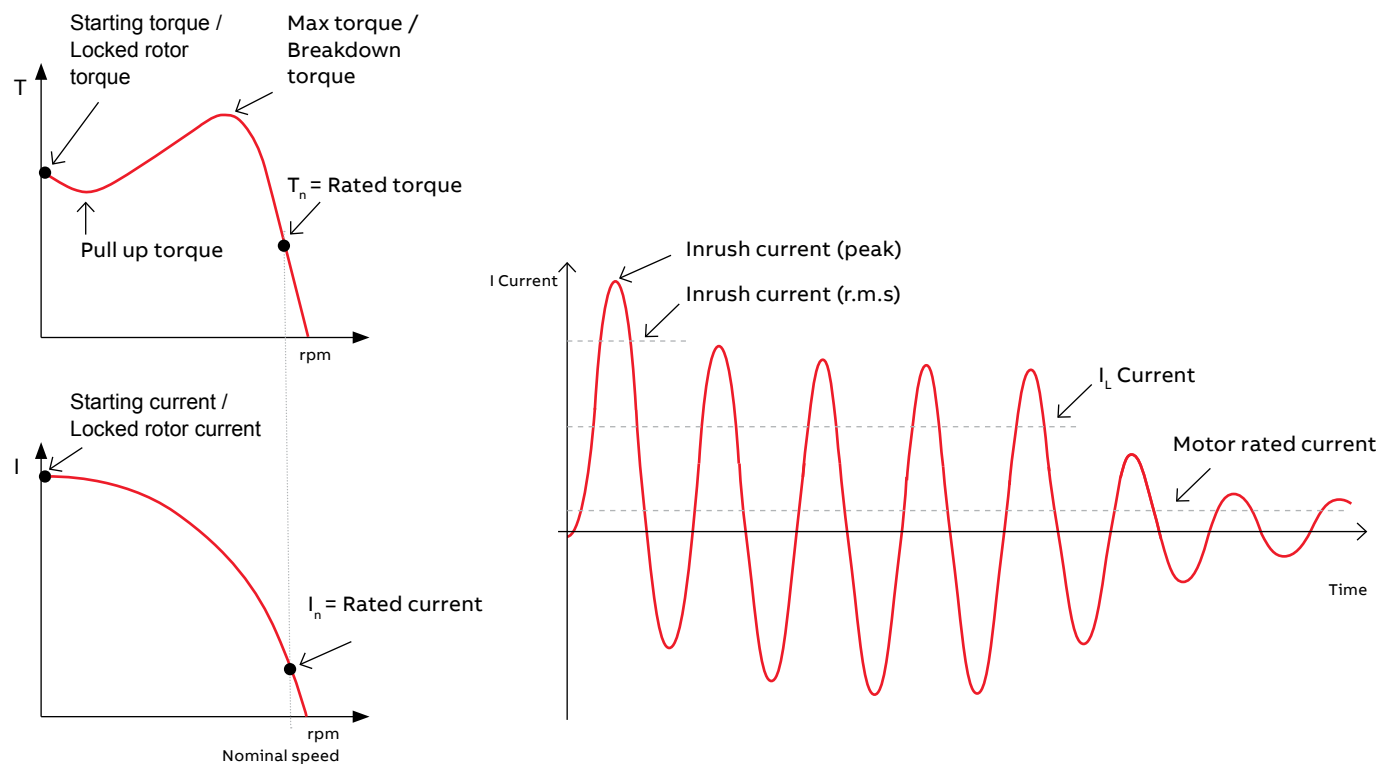

Figure 2: Diagrams of the different currents at the start-up of a motor.
Modular DIN rail components (MDRC) are devices designed to be used with a mounting rail. The mounting rail consists of metal and is standardized for electrical engineering. The term is derived from the original specifications published by the German Institute for Standardization (DIN) in Germany, which have since been adopted as European (EN) and international (ISO) standards. The mounting rail is specified by the DIN Norm EN 50022 with the dimensions 35 mm x 7.5 mm, seen in the Figure 2. Figure 2 shows several standardized mounting rail designs. Today, the standards for mounting rails are summarized in DIN EN 60715.